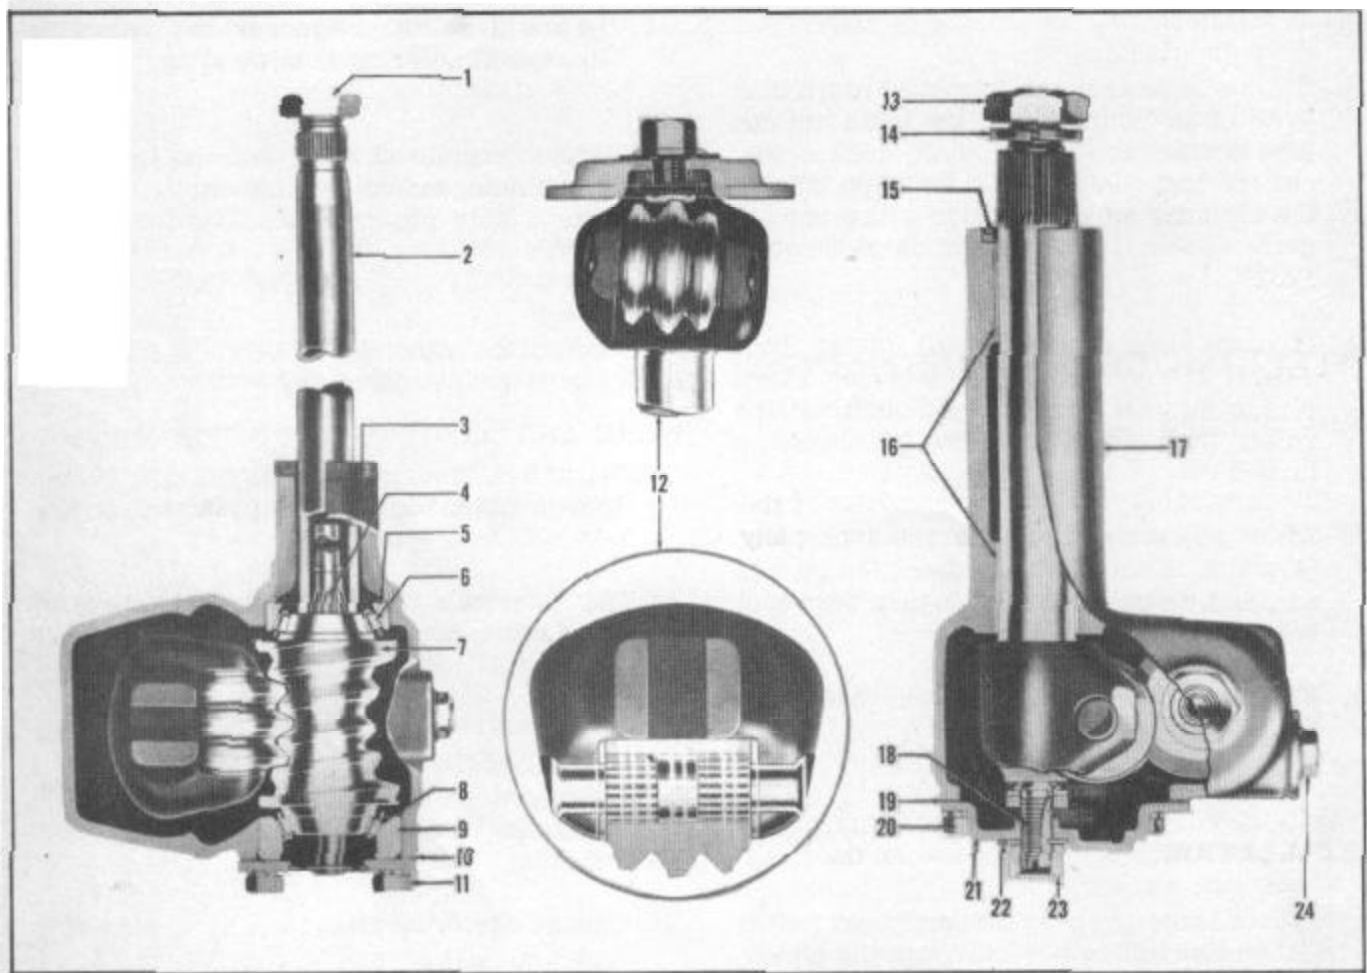

FIGURE 8
2. Remove pitman arm nut (21) and lockwasher (22) and pitman arm using puller J-1374.
3. Remove sector shaft cover screws (1), cover (5), gasket (2), Figure 8.
4. Remove steering gear sector shaft (7).
2. Loosen the four worm cover bolts (9) Figure 8 about 1/8"
1. Remove the roller shaft adjustment screw lock nut (3), Figure 8.
2. Slide the lock plate (4) far enough off to clear the lock boss on the sector shaft cover (5).
5. Tighten sector shaft adjusting screw (6), Figure 8, just enough to remove excessive play between the roller shaft roller tooth and the worm.